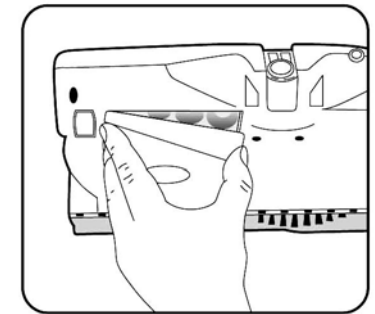

Fig. 17
3. Push in locking tab and lift off battery assembly. (Fig. 17)